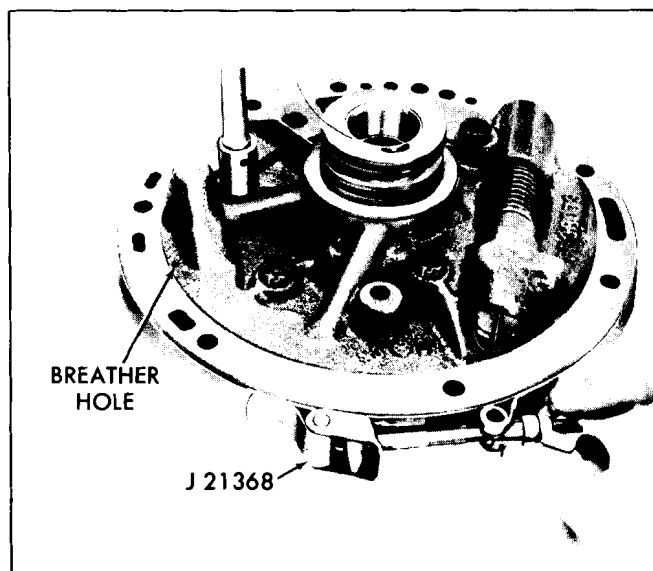

Fig. 7E-112 Aligning Pump Cover to Pump Body
17. Inspect pump cover for open 1/8" diameter breather hole (Fig. 7E-114).